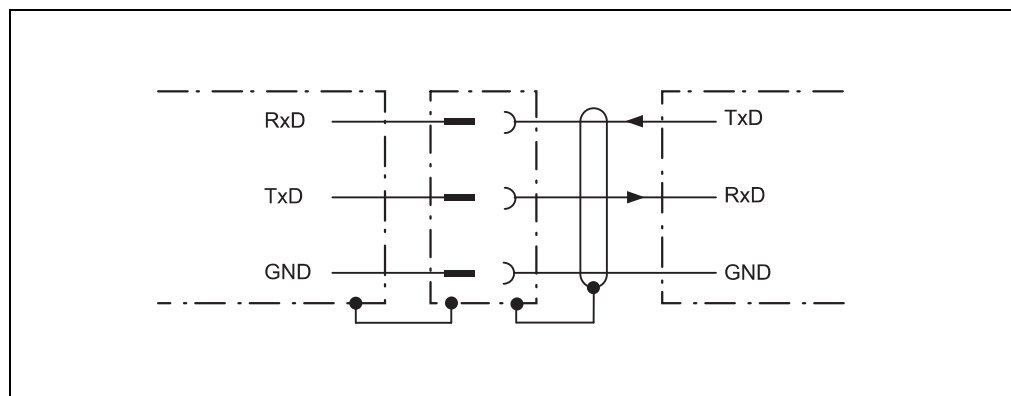

Fig. 23: Wiring the RS232 interface
- Connect the PC (serial interface) to the NAV340 (see fig. 23 on page 40)